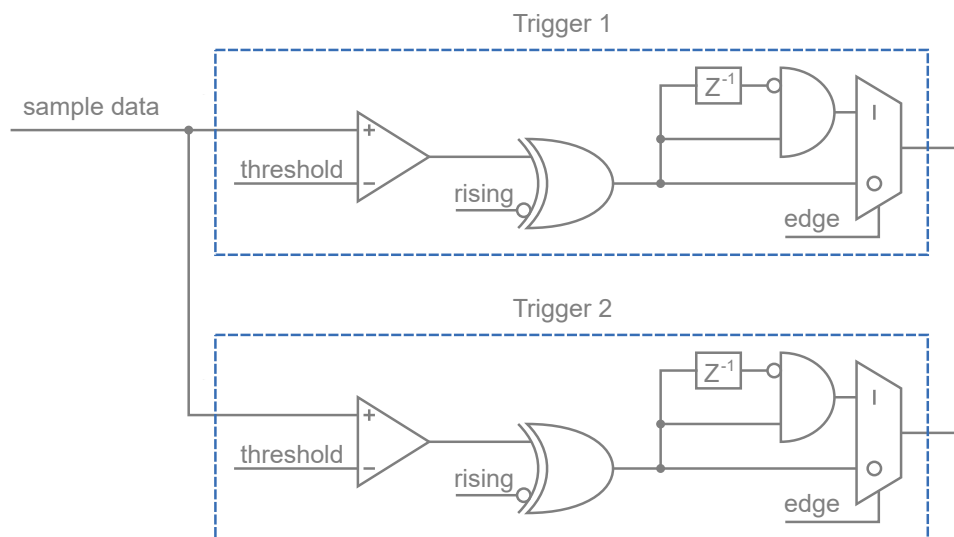

Figure 2.13: From the ADC inputs, a trigger unit creates an input flag for the trigger matrix. Each digitizer channel (A, B, C, D) has two trigger units.
- The eight trigger decision units of all four ADC channels (Figure 2.13)